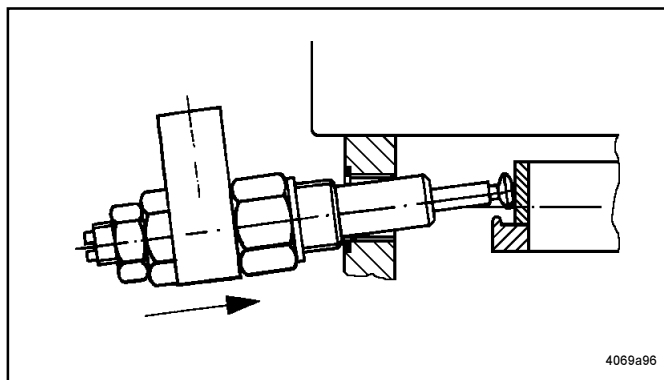

Fig. 7 - Inserting the pump element
- * Insert the pump element (Fig. 7) in such a way that is slightly directed upward in order to prevent the delivery piston from falling down because it is not fixed within the pump cylinder.
- * When disassembling or assembling (see Fig. 7) the pump element, direct it upwards in order to raise the delivery piston out of the groove of the eccentric ring.